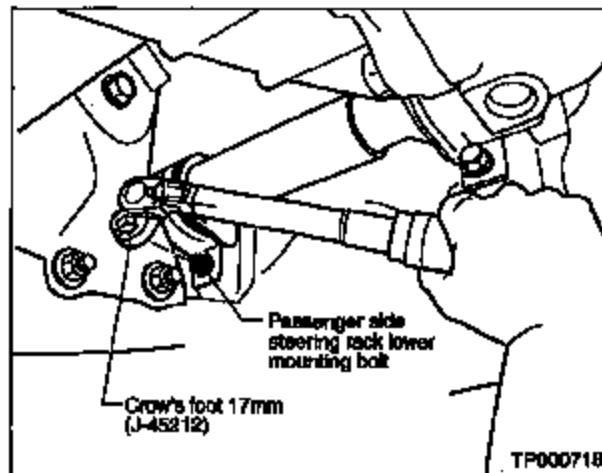

Figure 5
**NOTE:** Tighten the lower bolt of the passenger side bracket, using special tool J-45212 (see Figure 5).